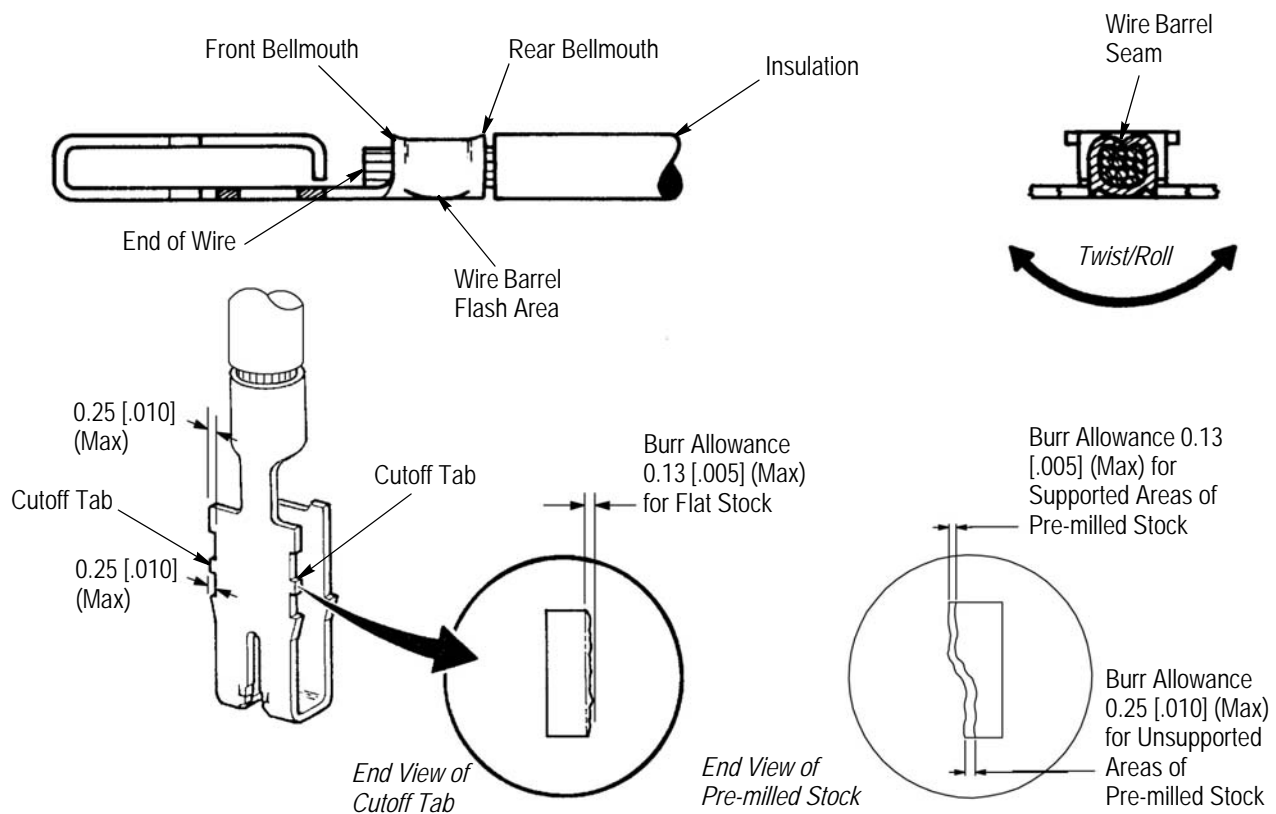

Figure 8
3.4. Terminating Crimp Wire (Figure 8)